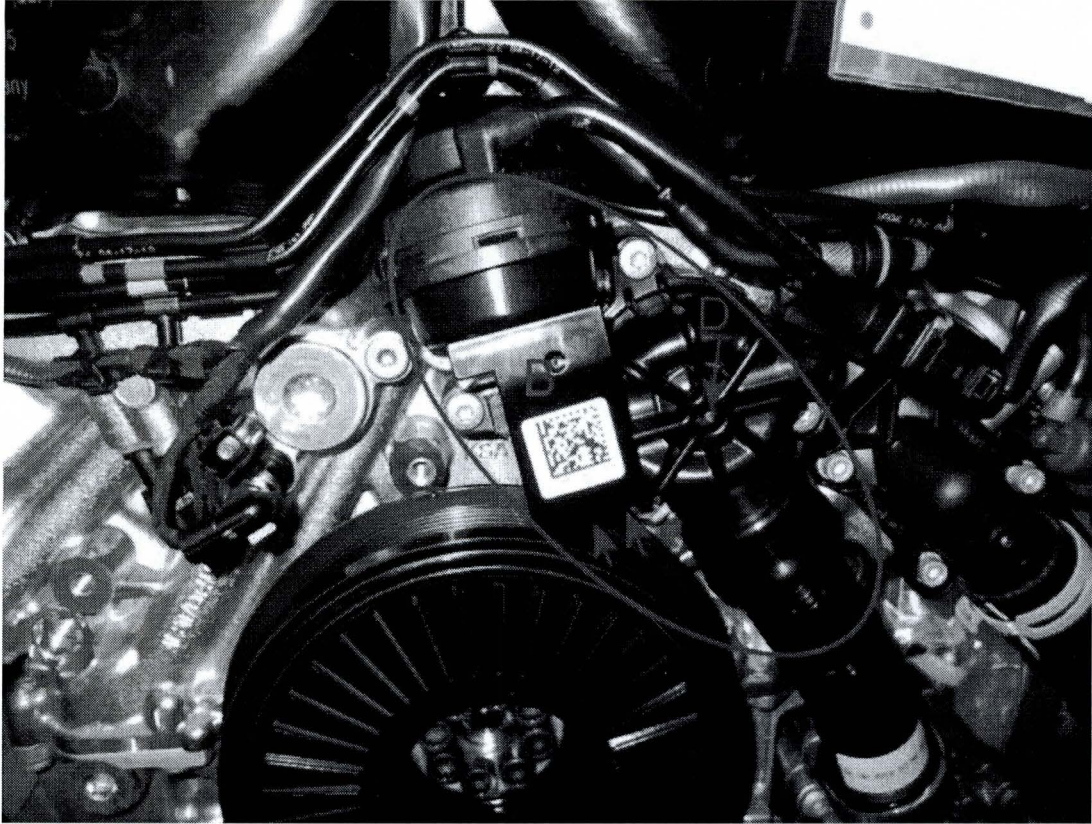
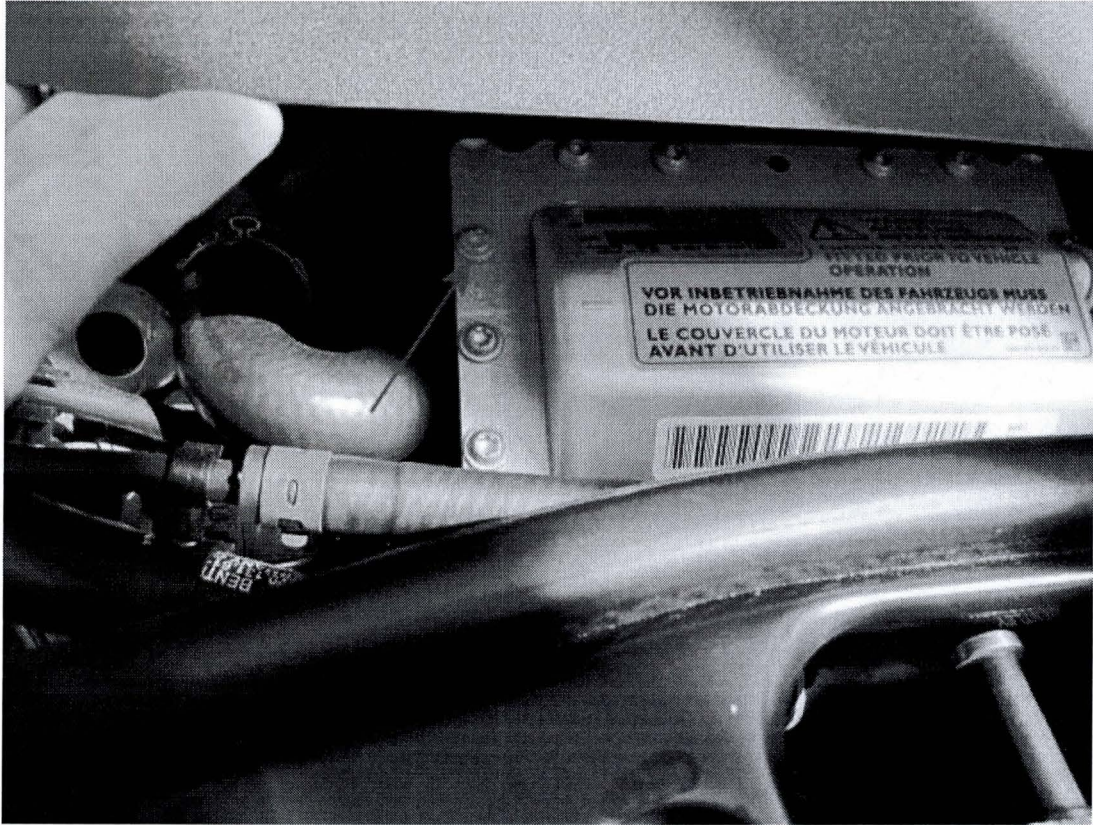

Figure 1
Figure 5
If the vehicle is not already listed as repaired in the "Repair history" (in ElsaPro), check the vehicle for the campaign identification mark, either a green or yellow mark on the valve housing (see position 'D' Figure 1) or a green mark on the charge air cooler fastener (see Figure 5) if one of these marks is not visible on an applicable vehicle then carry out the required work in accordance with these instructions
1. Locate the coolant warm up valve assembly (B). It is incorporated into the main engine coolant system and positioned adjacent to the crankshaft pulley, it is fitted with a distinctive bar code label (see Figure 1)
7. On completion apply a green paint campaign mark to the charge air cooler fastener (see Figure 5)